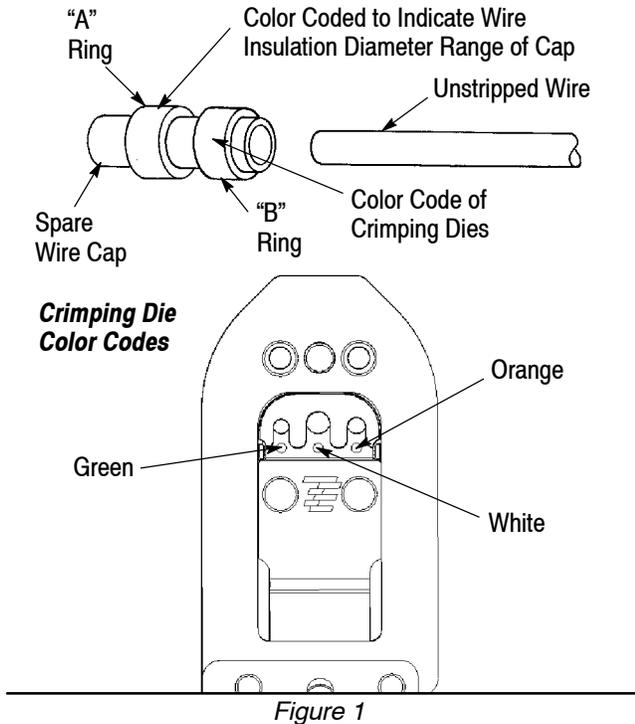

Figure 1
coded dies. See Figures 1 and 2. Example: If insulation diameter of wire is within a range of 1.422 to 1.63 mm [.056 - .064 in.], use ring "A."
4. Wire insulation diameter is within range of color coded (Ring "A") cap. See Figure 1.
4. Wire insulation diameter is not within range of color coded (Ring "A") cap. See Figure 1.
5. Excessive flash or cracked ring. Wire insulation diameter too large (see Figure 1) or damaged dies.